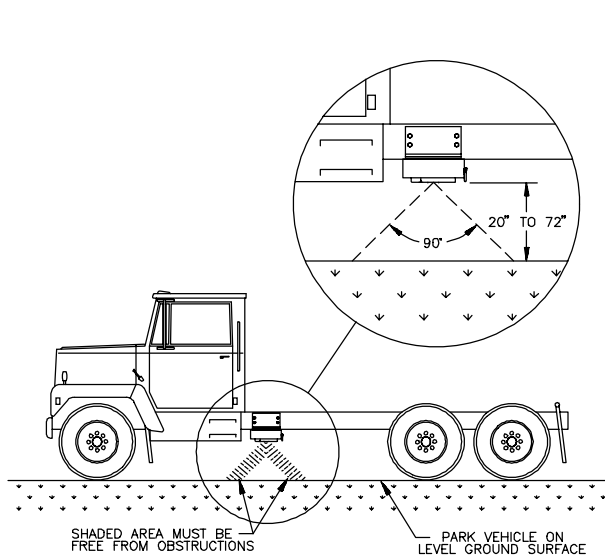

FIGURE 1
- a) The line of sight from the lens to the ground must not be obstructed by structures or tires. Road surface must not come closer than 20 inches to the bottom of the radar. See Figures 1 and 2.